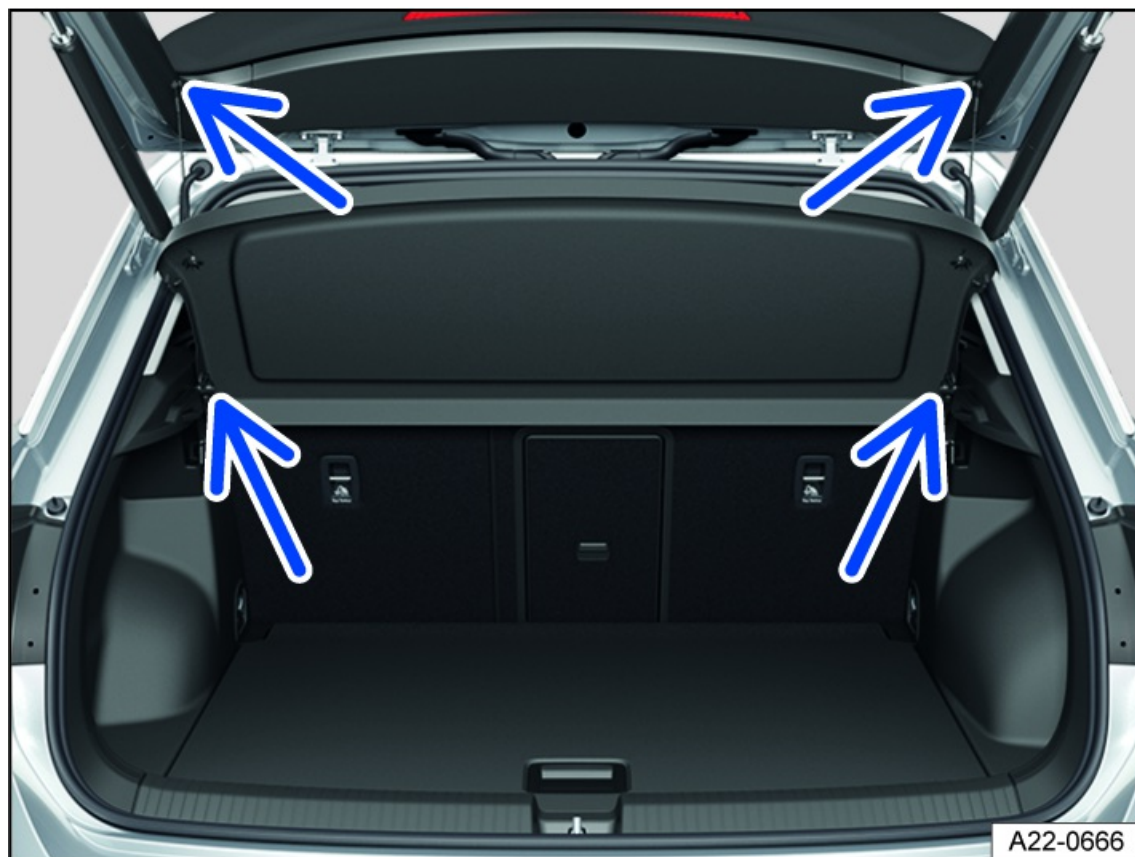

Fig. 128 In the luggage compartment: installing and removing the luggage compartment cover (general example).
1. Unhook the top retaining straps from the trunk lid fig. 128 (upper arrows).
2. Push the luggage compartment cover out of the side holders from below fig. 128 (lower arrows).
1. Press the luggage compartment cover into the side holders in the luggage compartment fig. 128 (lower arrows).
2. Hook the retaining straps onto the trunk lid fig. 128 (upper arrows).